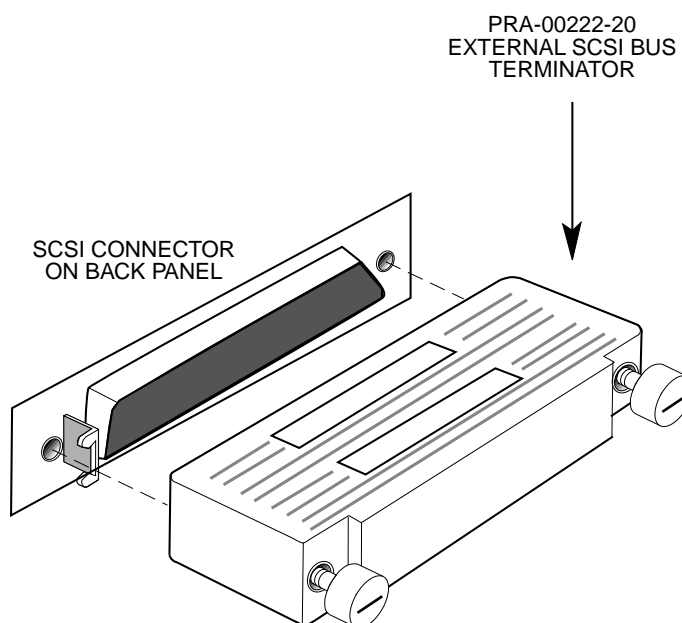

Figure 8b - External SCSI Terminator - Wide
2. Figure 8b shows an external wide SCSI connector. The terminator is held in place by thumb screws.